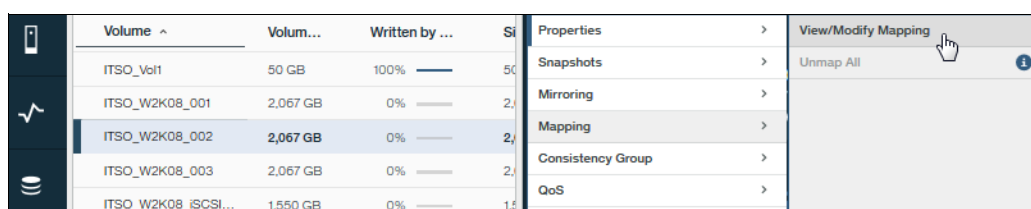

Figure 2-45 Mapping a LUN to a host
1. From the **Pools and Volumes Workspace** → **Volumes** view, select the volume to map, and select **Actions** → **Mapping** → **View/Modify Mapping** (see Figure 2-45).